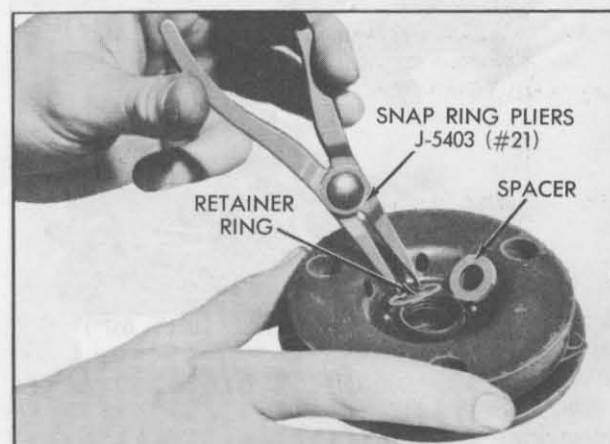

Fig. 1-58 Removing Hub Retainer Ring and Spacer
5. Remove hub retainer ring using Snap Ring Pliers, J-5403 (#21), and then remove hub spacer, Fig. 1-58.